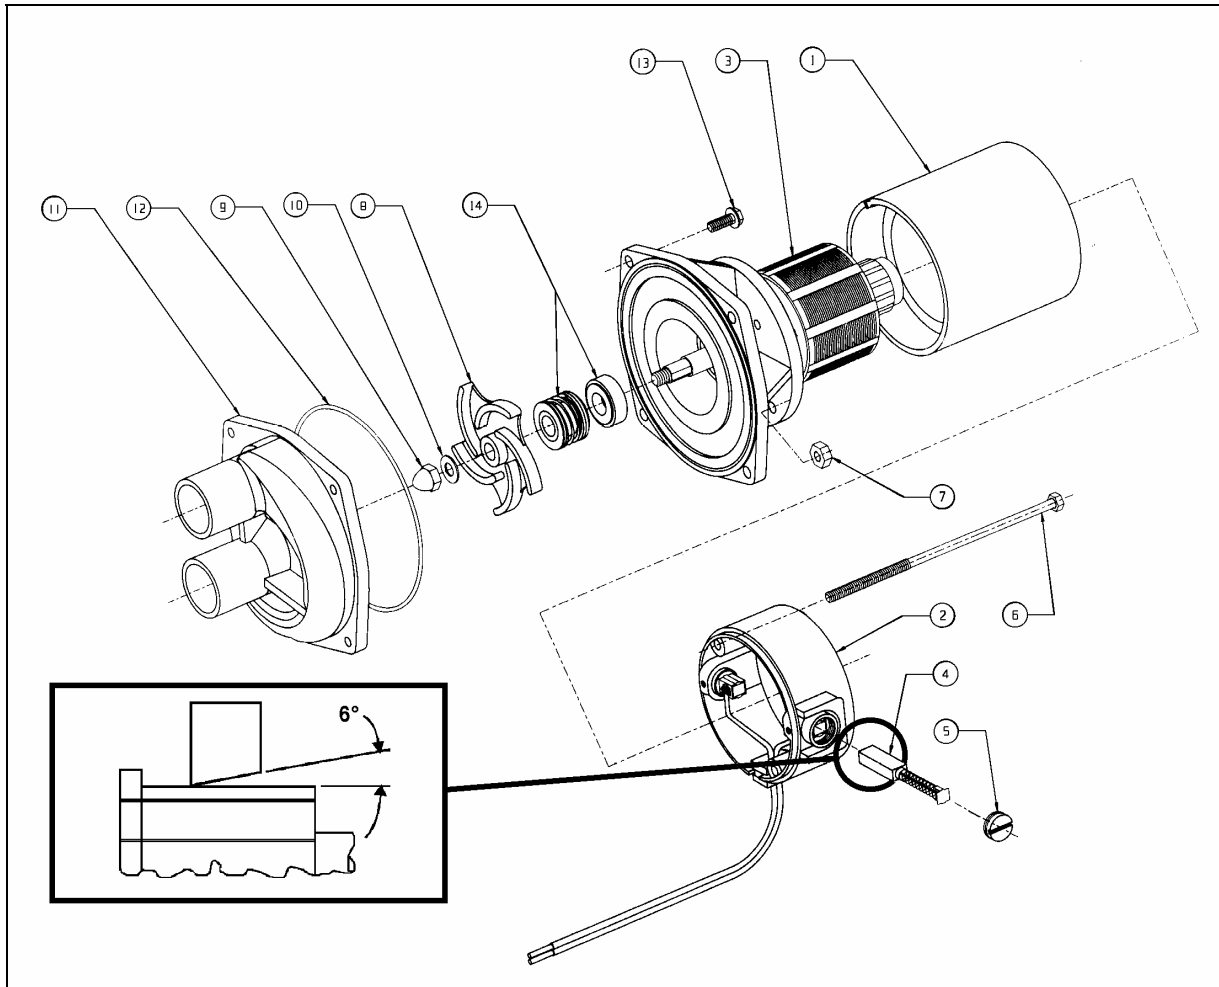
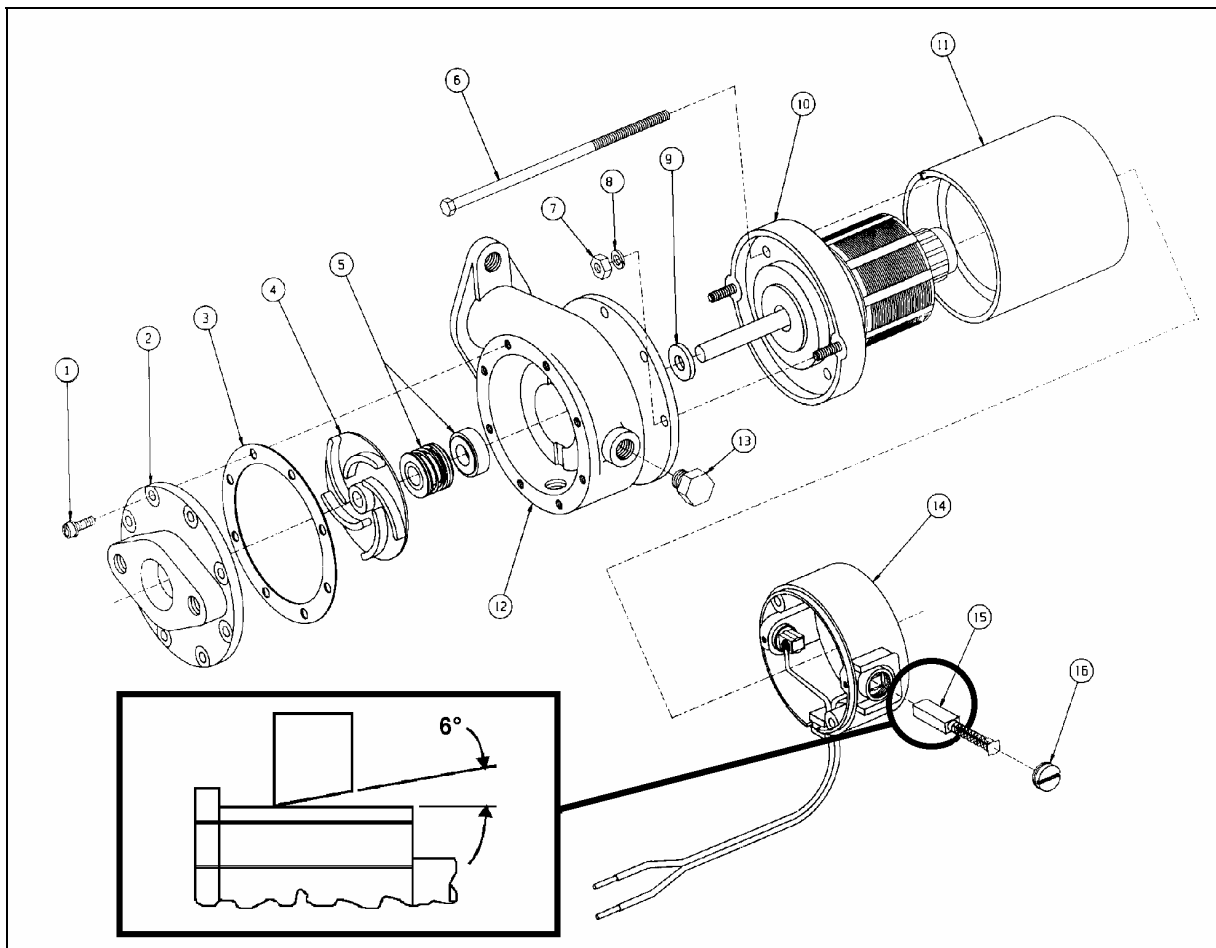

FIGURE 48: WATER RECIRCULATING PUMP (CONVERTED VEHICLE - CENTRAL A/C)
FIGURE 49: WATER RECIRCULATING PUMP (COACH - CENTRAL A/C OR DRIVER'S A/C)
4. **Fig. 49 only:** Remove the drain plug at rear of pump and place a container to recover the residual coolant in the line.
5. **Fig. 49:** Disconnect water lines from pump at flange connections.
6. **Fig. 48:** Disconnect water lines from pump at connections between hoses and copper pipes (leave hoses connected to pump).
-For converted vehicle (shell) central A/C pump, see Fig. 48.
-For coach central A/C pump, or driver's A/C pump, see Fig. 49.
1. **Fig. 48:** Remove two brush caps (5) and two brush assemblies (4). When removing brushes, note the position of the brush in the tube. Brush life is significantly decreased if brushes are not replaced properly.
1. **Fig. 49:** Remove two brush caps (16) and two brush assemblies (15). When removing brushes, note the position of the brush in the tube. Brush life is significantly
2. **Fig. 48:** Remove the pump cover (item #11) by first removing the 4 head screws. Remove cover carefully to prevent damaging the O-ring (12) (disconnect hoses from cover only if required).
2. **Fig. 49:** Remove the pump cover (item #2) by first removing the 8 head screws. Remove cover carefully to prevent damaging the gasket (3).
3. **Fig. 48:** Remove O-ring (12).
3. **Fig. 49:** Remove gasket (3).
4. **Fig. 48:** Remove two hex nuts (7) retaining pump assembly to motor.
4. **Fig. 49:** Remove two hex nuts and lock washers (7 & 8) retaining pump assembly to motor.
5. **Fig. 49 only:** Remove the pump from the motor as follows:
- a. Install puller tool assembly (MP Co. Part No. 24702 or equivalent) to pump body (12) using four screws removed from the pump cover (2).
6. **Fig. 48:** Remove acorn nut (9) and gasket (10), then remove impeller (8) and components of the pump seal assembly (14).
6. **Fig. 49:** Remove impeller (4) and components of the pump seal assembly (5).
- d. New brushes have a six (6) degree angle. The brush should always be inserted so that the angle is open away from the pump end of the assembly (inset, Figs. 48 & 49).
1. **Fig. 49 only:** Check the shaft slinger (9) to make sure it is tight on the motor shaft. If the slinger slips on the shaft, it should be replaced.
2. **Fig. 48:** Inspect seal assemblies (14) to determine wear. If the seal has leaked, or is badly worn, it is recommended that a complete new seal assembly be installed.
2. **Fig. 49:** Inspect seal assemblies (5) to determine wear. If the seal has leaked, or is badly worn, it is recommended that a complete new seal assembly be installed.
3. **Fig. 49 only:** The impeller (4) is a press fit on the armature shaft. This press fit must be maintained to prevent the impeller from slipping. Install a new impeller if necessary.
1. **Fig. 49 only:** Install slinger (9) on the motor shaft.
2. **Fig. 49:** Assemble body (12) to the motor.
3. **Fig. 48:** Install seal assembly (14).
3. **Fig. 49:** Install seal assembly (5).
4. **Fig. 48:** Insert impeller (8) and secure with acorn nut (9) and gasket (10).
4. **Fig. 49:** Install impeller (4) in the following manner:
5. **Fig. 48:** Install O-ring (12).
5. **Fig. 49:** Install gasket (3). This gasket serves both to seal the cover and to establish the proper clearance between the face of the impeller and the pump cover.